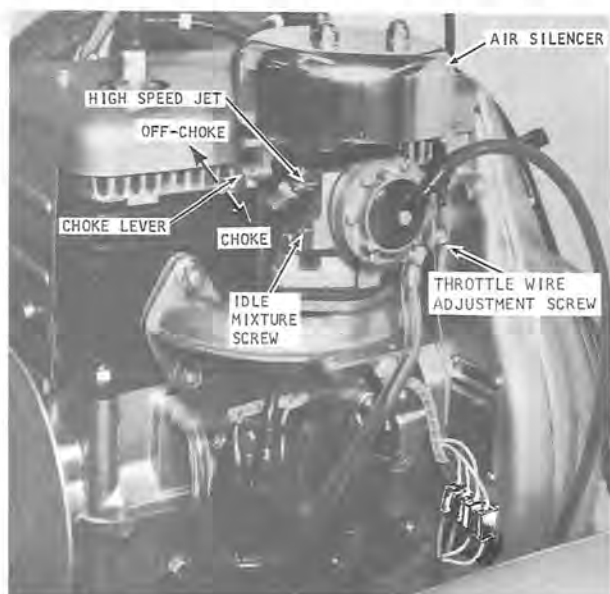

Figure 10
1. Turn the high- and low-speed mixture screws into the seats (figure 10). DO NOT FORCE SCREWS INTO SEATS.